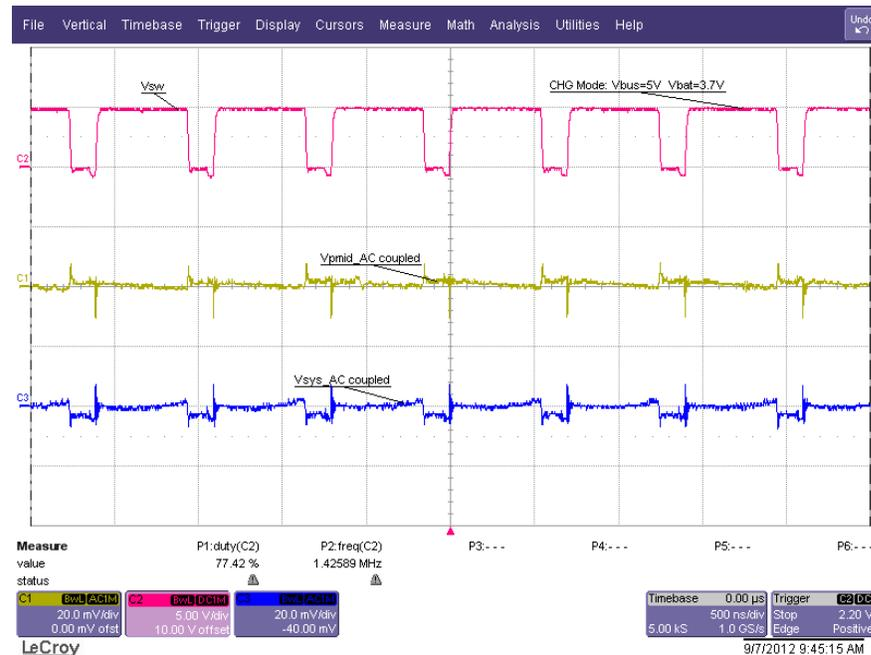

Figure 5. CHG mode ripple and duty cycle; VBUS = 5V and VBAT = 3.7V.
6.2.6 Verify Scope Measurements (See Figure 5 – 500ns/div):
Connect Channel 1, 2, 3 as listed below and verify waveforms as shown in Figure 5.